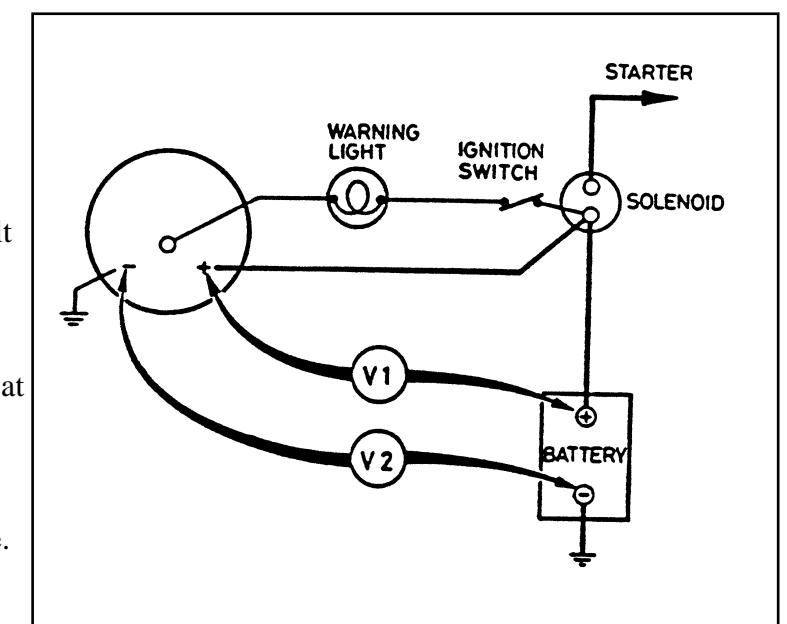

Figure 8
2. Connect an ammeter between the starter solenoid terminal and the alternator main output cable. Connect a multimeter across the battery terminals. See Figure 8.